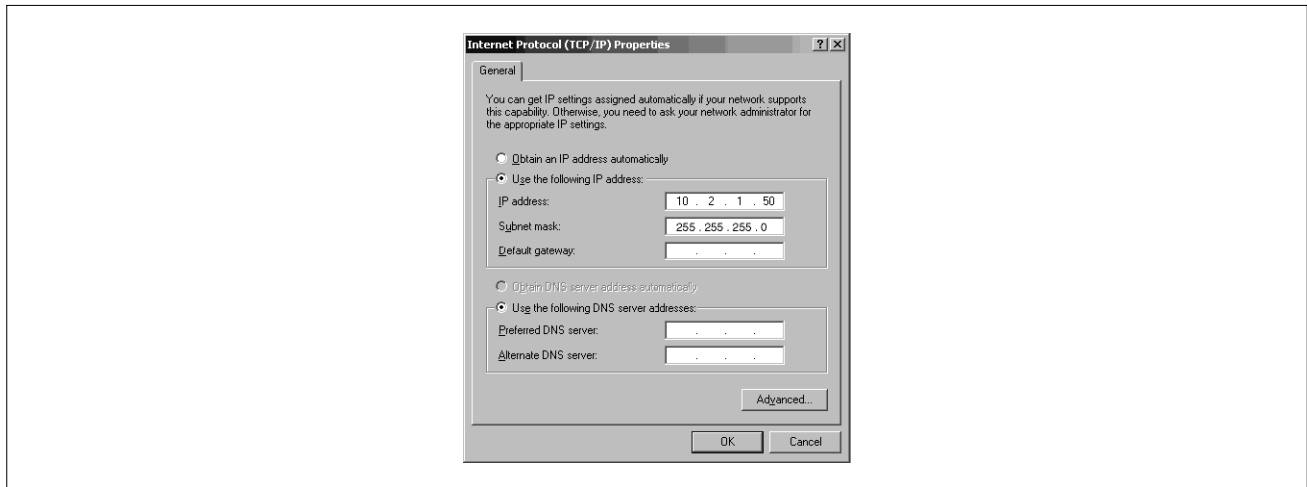

Figure 14. Internet Protocol TCP/IP Properties dialog box
4. In the 'connections or components used check list' window, highlight Internet Protocol (TCP/IP) and then click the **Properties** button to display the Internet Protocol TCP/IP Properties dialog box (Figure 14).
5. Click the **Use the following IP Address** radio button and enter an IP Address and Subnet mask for your laptop. You can use an IP address that is one digit off from the customer supplied IP Address you will assign to the console's TCP/IP Interface Module. For example, if the IP Address for the TCP/IP module is 10.2.1.51, you would enter 10.2.1.50 for the laptop's IP Address. You also need to enter a Subnet mask. Use the same Subnet mask that is in the example in Figure 14 above (255.255.255.0). Click OK to accept your entries.
Note: Prior to reconnecting your laptop to a network, you will need to select the **Obtain an IP address automatically** radio button shown in Figure 14 above.